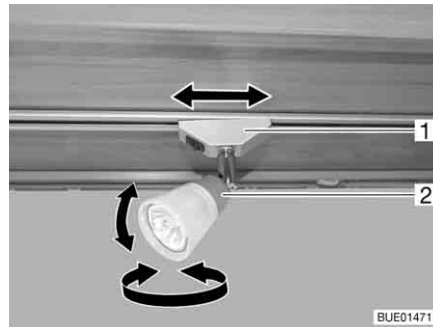

Fig. 65 Spotlight
- Grasp the housing (Fig. 65,2) and turn it.
- Grip holder (Fig. 65,1) and turn by approx. 45°.
- Grip holder (Fig. 65,1) and turn by approx. 90°.